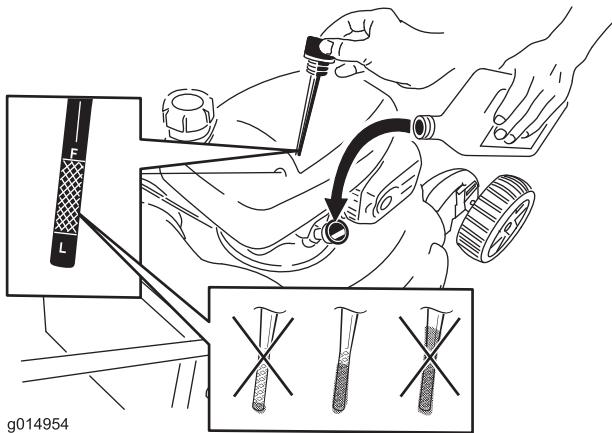

Figure 37
- Remove the dipstick from the oil-fill tube (Figure 37).
- Remove the dipstick and read the oil level; refer to Figure 37.
- If the oil level is too low, add a small amount of oil slowly to the oil-fill tube, and then repeat steps 10 through 12 until the oil level is correct as shown in Figure 37.